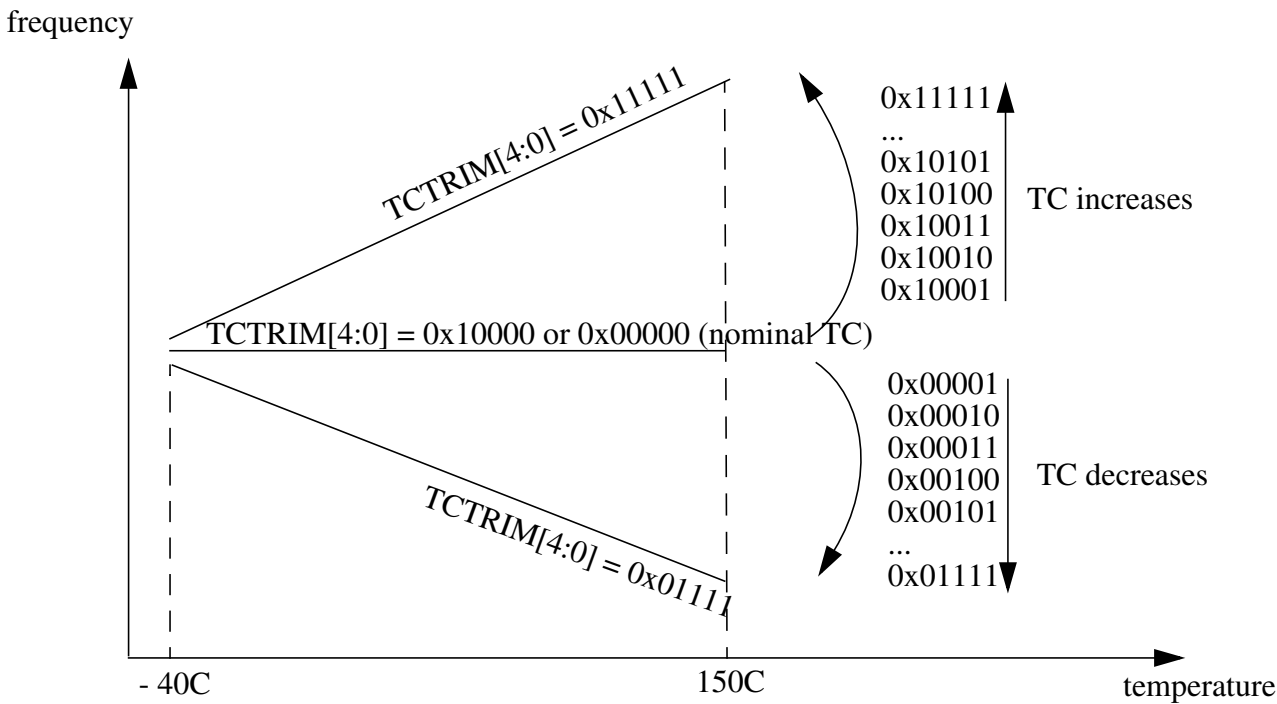

Figure 4-29. Influence of TCTRIM[4:0] on the Temperature Coefficient
15-11 TCTRIM[4:0]	IRC1M temperature coefficient Trim Bits Trim bits for the Temperature Coefficient (TC) of the IRC1M frequency. Table 4-26 shows the influence of the bits TCTRIM[4:0] on the relationship between frequency and temperature. Figure 4-29 shows an approximate TC variation, relative to the nominal TC of the IRC1M (i.e. for TCTRIM[4:0]=0x00000 or 0x10000).